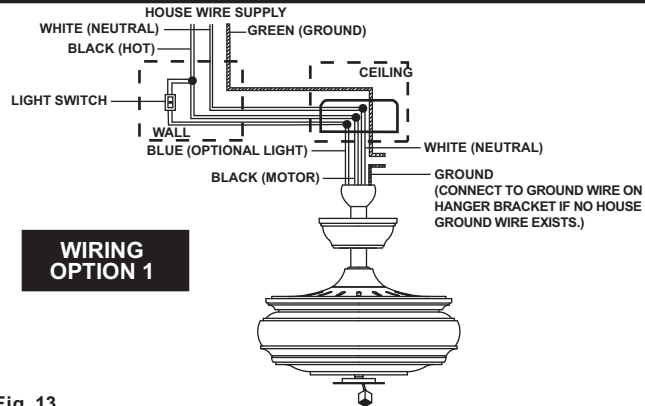

Fig. 13
Step 3. Figure 13 & 14 illustrate the wiring connections using optional wall unit. (Available at your Minka-Aire® Retailer.) **NOTE:** If a light kit is not included with your fan, one can be purchased at your Minka-Aire® Retailer.